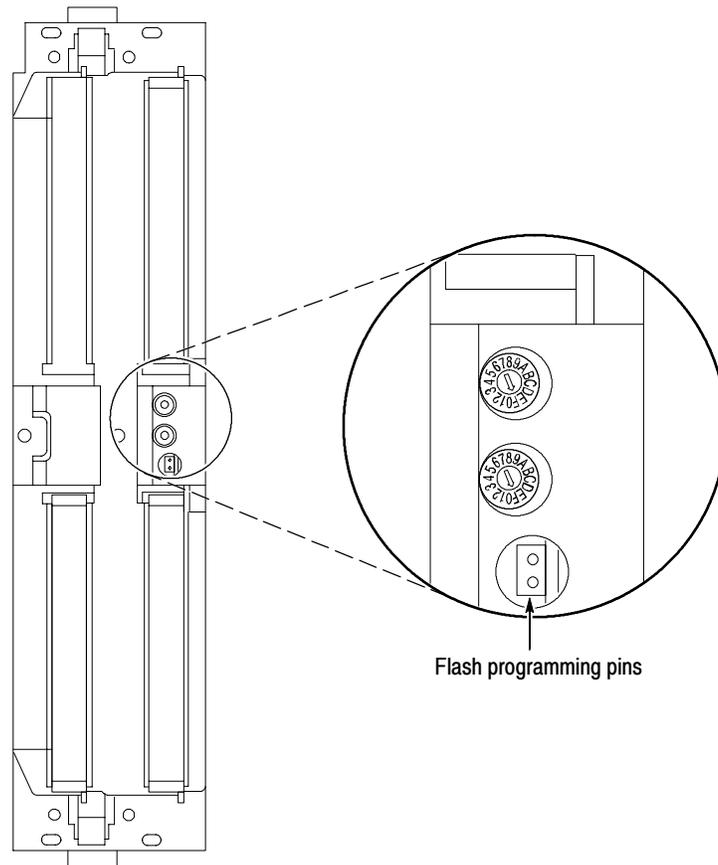

Figure 28: Flash programming pins
4. Refer to Figure 28 on page 51 and locate the flash programming pins on the rear of each module.